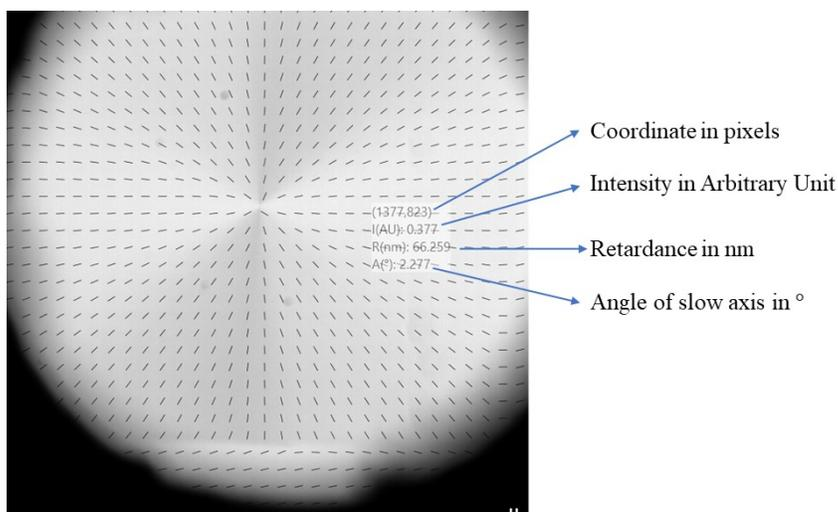

Fig. 6 Coordinate in pixels, intensity, retardance, and angle of the slow axis at the position of the mouse cursor
8. In the **Data** tab, choose the image → place the cursor on the image to see **Intensity** in the arbitrary units (**UA**), **Retardance (R)** in **nm's**, **Angle (A)** in degrees ( $^{\circ}$ ) for a given coordinate displayed in terms of pixels as shown in Fig. 6. Recall, angles are measured counterclockwise due to **step 4**.